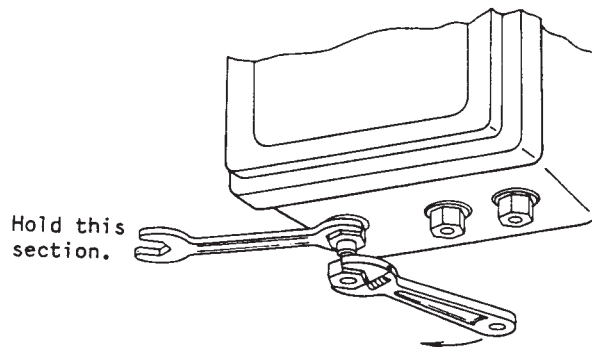

Fig. 6-4
- (4) When connecting a pressure connection pipe to the instrument, hold the case connection section with a wrench. (See Fig. 6-4)